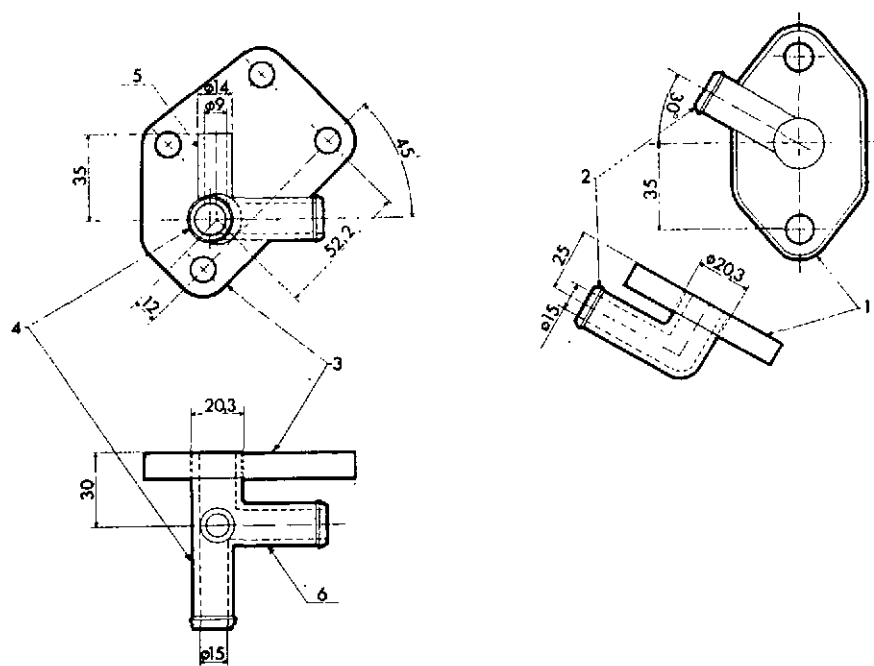

Fig. 6
1. The warm water **from** the engine heater is supplied to both the engine block halves via blind cover part No. 170626 see fig. 6 pos. 1 to which elbow nipple pos. 2 is securely soldered (brazing) in accordance with the fig. indicated. This design which is intended for the left-hand side of engine shall be the same for the right-hand side of engine, i.e. the opening of nipple shall be turned forwards - upwards. If there is no suitable nipple available, nipple with part No. 189256, compare subsection 2 below, can be used since one of the nipple connections has been cut off and joined through brazing in a satisfactory manner.
- a) through blind cover part No. 170918, fig. 6 pos. 3 (left-hand side) and 170914 (right-hand side).
On the cover 170918 nipple 189256 is securely soldered fig. 6 pos. 4 in accordance with the fig. shown. When air compressor is fitted a brass pipe 5 is soldered on for connection to the compressor cooling system. The nipple outlet 6 is intended for the oil cooler.